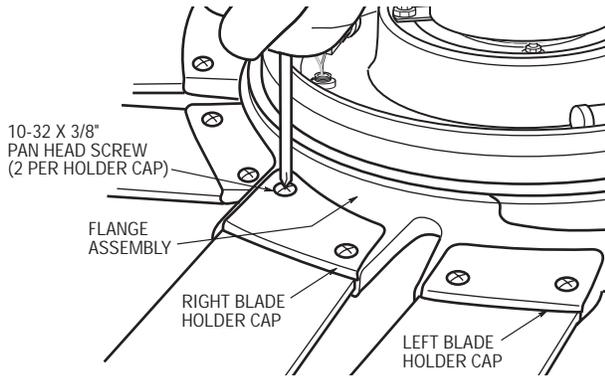

Figure 10
- 20. Position one fan blade on the flange assembly and secure by installing the left and right blade holder caps using two 10-32 x 3/8" pan head screws (supplied) for each holder cap (Figure 10). Install the remaining four fan blades using the same procedure.